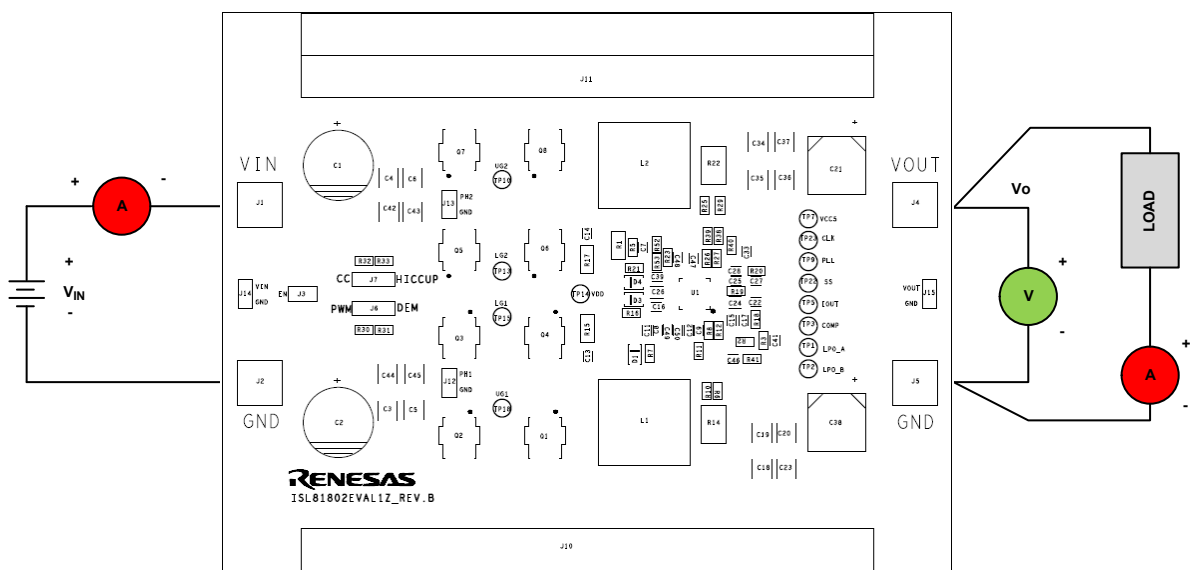

Figure 3. Proper Test Setup
As shown in Figure 3, 18V to 80V V_{IN} is supplied to J1 (+) and J2 (-). The regulated 12V output on J4 (+) and J5 (-) can supply up to 20A to the load. Due to the high power efficiency, the evaluation board can run at 20A continuously without airflow at ambient room temperature conditions.
1. Jumper J6 provides the option to select PWM or DEM. Jumper J7 provides the option to select a constant current limit or HICCUP. See Table 2 for the operating options. Ensure that the circuit is correctly connected to the supply and electronic loads before applying any power. See Figure 3 for the proper setup.